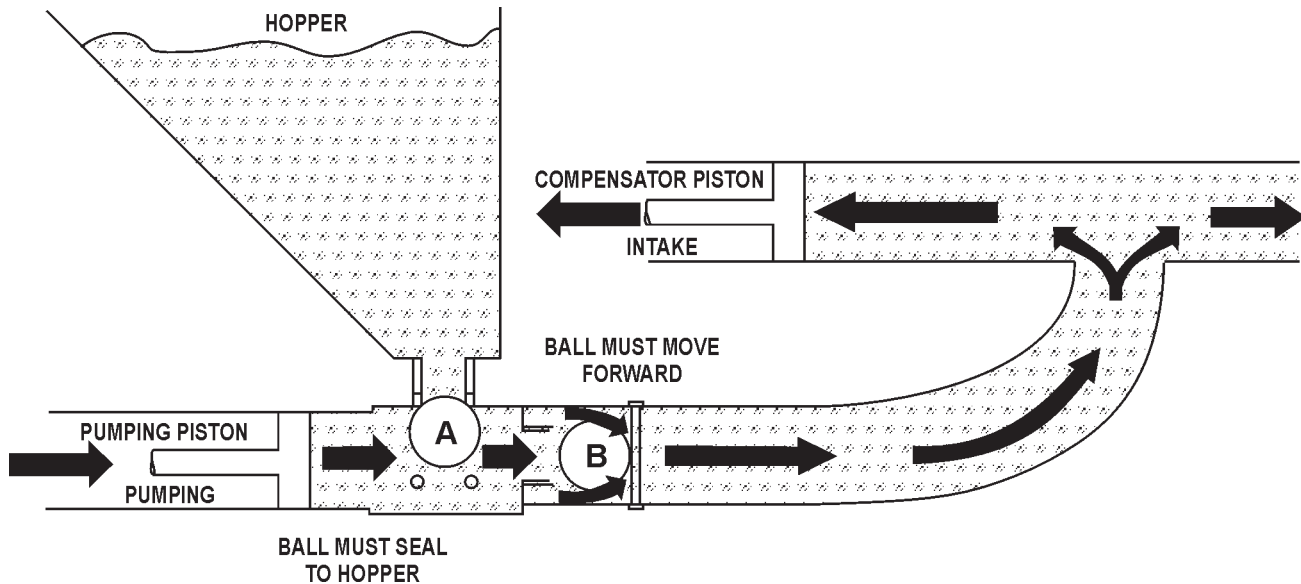

Figure 11. Pumping Pistons
The pumping piston (Figure 11) is forcing the material past ball (B) and out to the nozzle, also seating ball A so that the material will not flow back to the hopper. This action also fills the compensator piston for the next stroke.